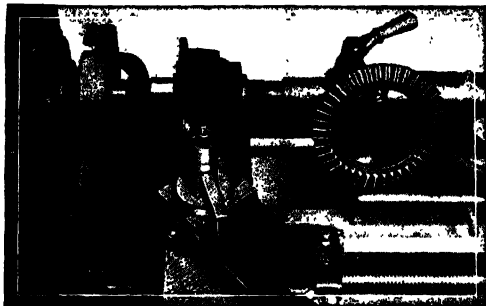

FIG. 5a.—Facing a Ring gear Set on a Lathe.
9. Remove lathe dogs and press out arbor if job is carried out by method illustrated in Fig. 5a.